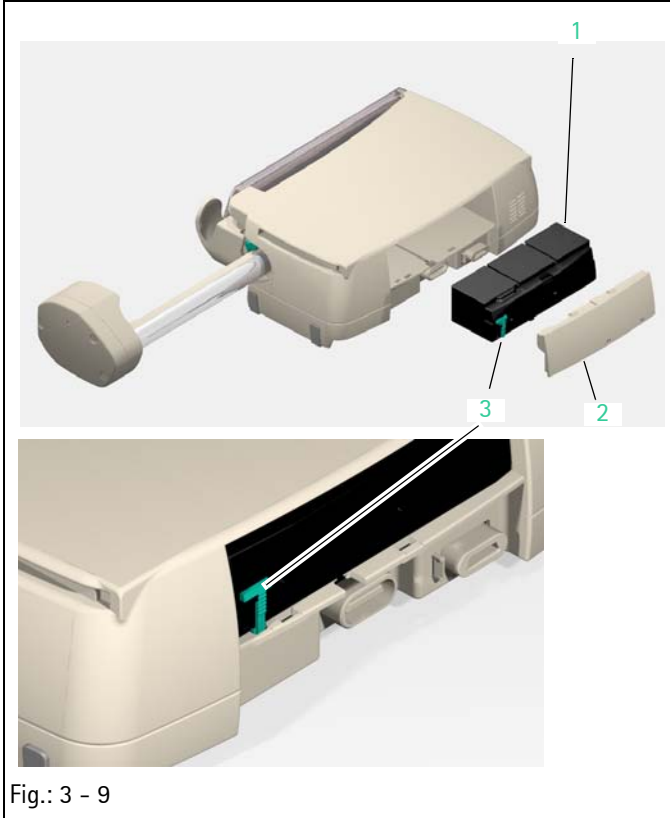

Fig.: 3 - 9
2. Lift the lock (Fig.: 3 - 9 / Item 3) on the battery pack (Fig.: 3 - 9 / Item 1) and remove the battery pack out of the device.
Legend of fig. 3 - 9: